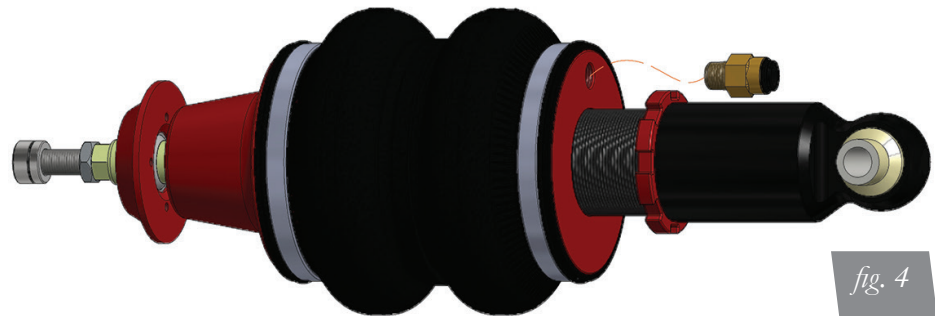

fig. 4
1. Begin by installing the air fitting into the air spring (fig. 4). Wrap the threads of the air fitting with Teflon tape or thread sealant. Tighten 1  $\frac{3}{4}$  turns beyond hand tight.